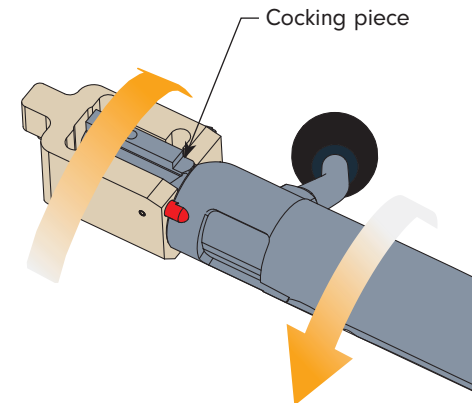

Fig 3-8
- When the firing pin spring is compressed, rotate the shroud as shown in Fig 3-8, until the location pin engages with the bolt body, just before the fire position.